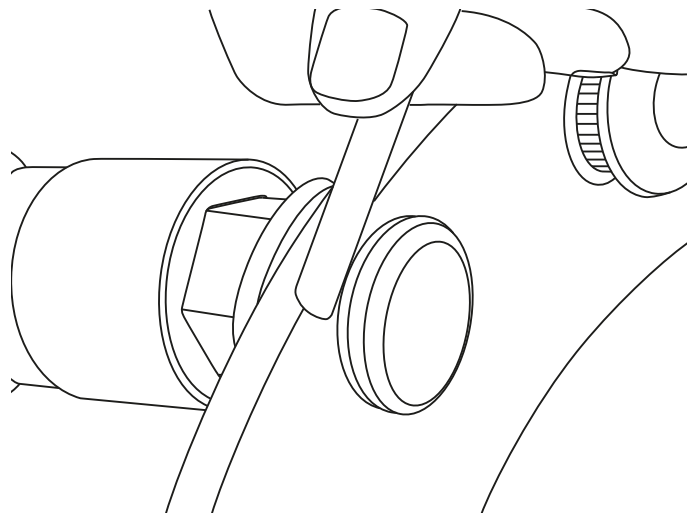

Figure 101: Checking Stud Installation with Feeler Gauge
6. Check stud installation with a 0.04 mm (0.0015 inch) feeler gauge to make sure the bolt is seated. Refer Figure 101.